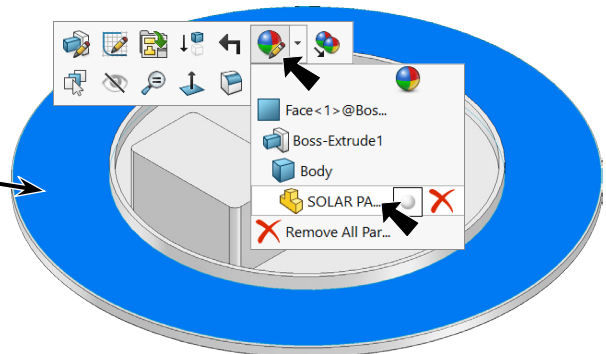

Fig. 25
Step 1. Click part, click **Appearance Callout** on the context toolbar and click **SOLAR PANEL**, Fig. 25.